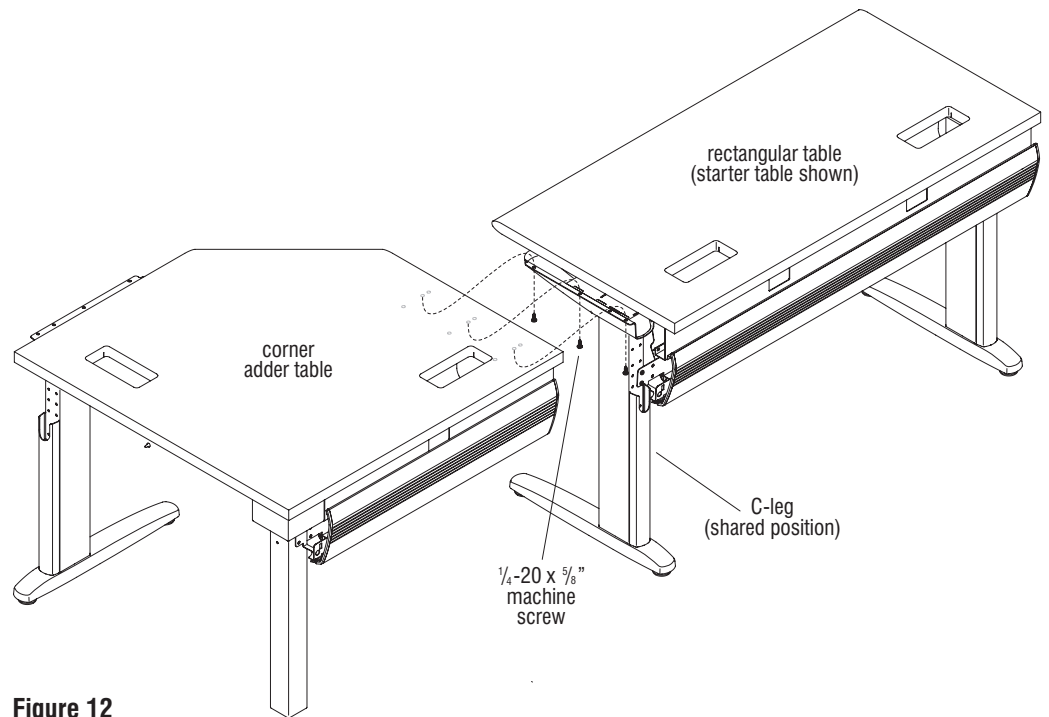

Figure 12
6. With the assistance of a second person, carefully turn the adder corner table, to be connected to the next table in your configuration, to the upright position. Rest the no-leg end of the worksurface onto the shared leg of the previous unit. Align the mounting holes on the leg with the adder worksurface holes and secure together using three $\frac{1}{4}$ -20 x $\frac{5}{8}$ " machine screws. For ease of installation, start all screws before tightening (Figure 12).